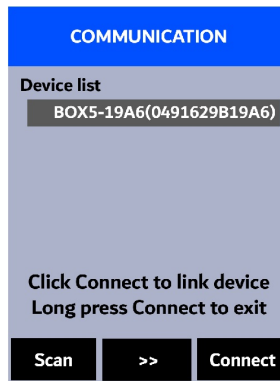

Figure 18.
5. Discoverable devices will begin to populate on the display with their name and MAC-Address (Figure 18).